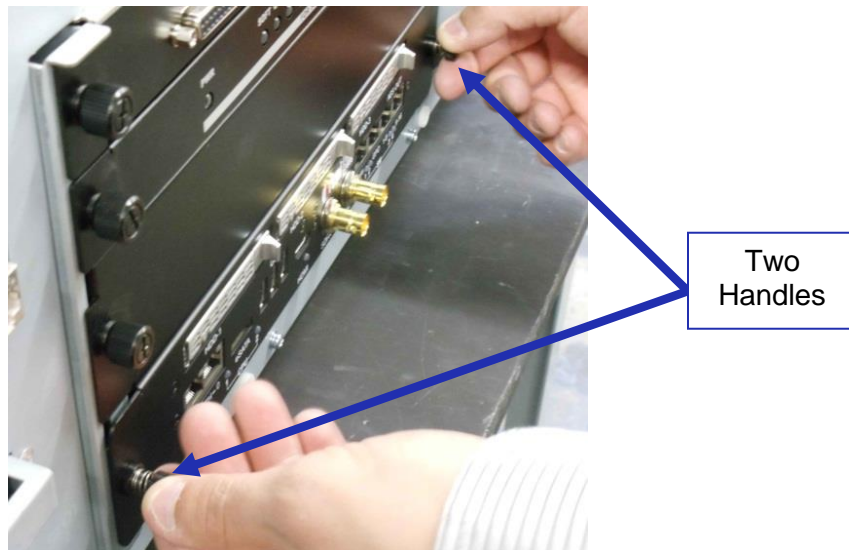

Figure 14: Securing the Board
- Screw in the handles on the side of the IMS1000 board to secure it in the projector (Figure 14).